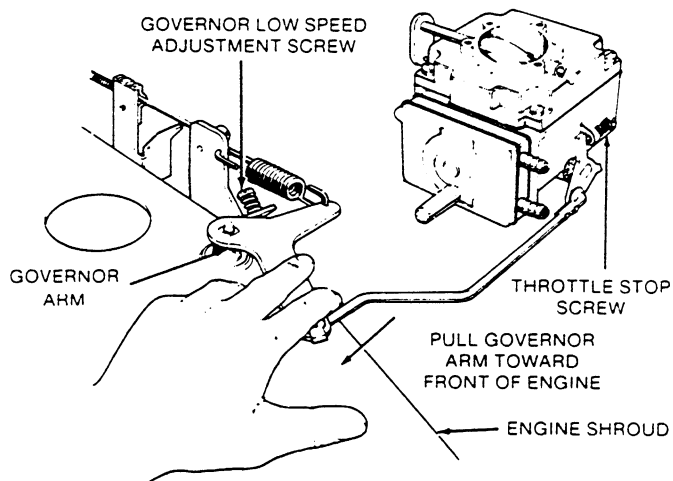

FIGURE 7. GOVERNOR ADJUSTMENT
4. Determine if the engine has a GOVERNOR low speed adjustment screw (See Figure 7).